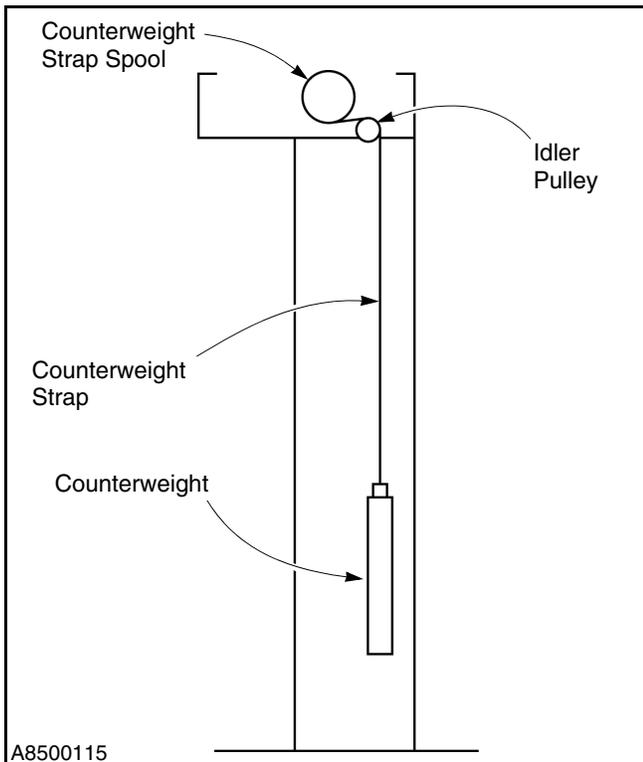

Figure 22
- Route each strap over its associated idler pulley as shown in Figure 22.